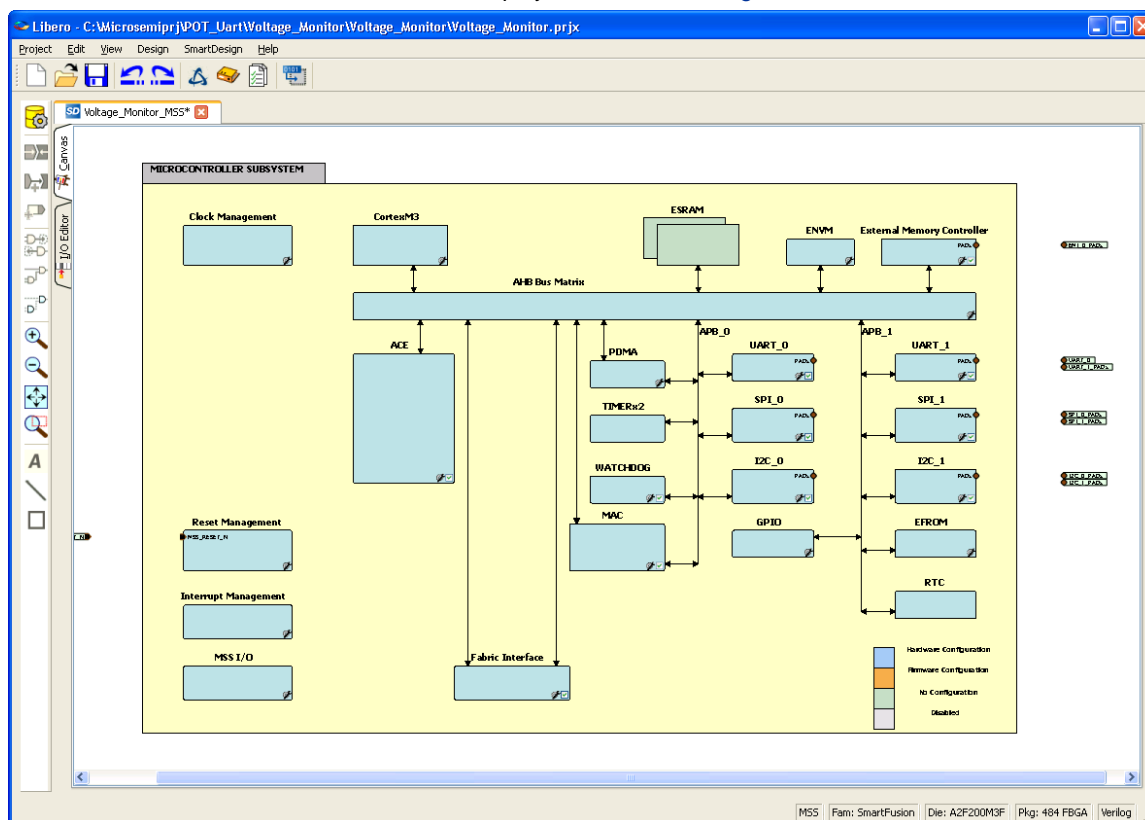

Figure 4 MSS in the SmartDesign Canvas
8. Click **OK**. The MSS canvas is displayed, as shown in Figure 4.